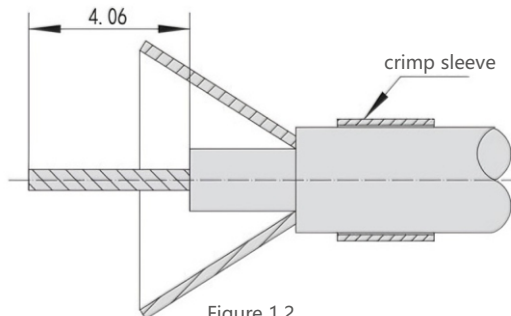

Figure 1.2
- ② As shown in Figure 1.2, slide the crimp sleeve backward onto the cable jacket, spread the shielding layer, and strip off the cable's insulating dielectric.